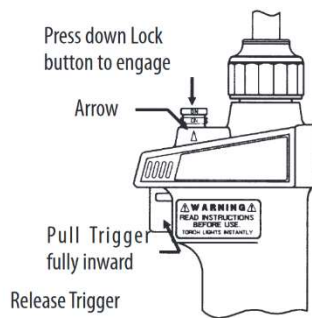

Figure 6: Trigger Lock and Safety Lock
1. Be sure the Trigger Lock is in the "OFF" position (Figure 6).
- a) Make sure the Lock Button is in the "ON" position and the torch is burning (see Figure 6).